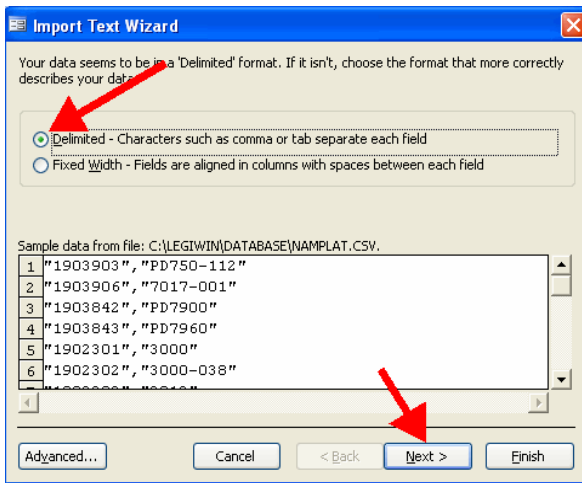

Figure 5-9a
5.2.18. Choose the *Delimited* option, and then click [**Next**]. (Figure 5-9a)